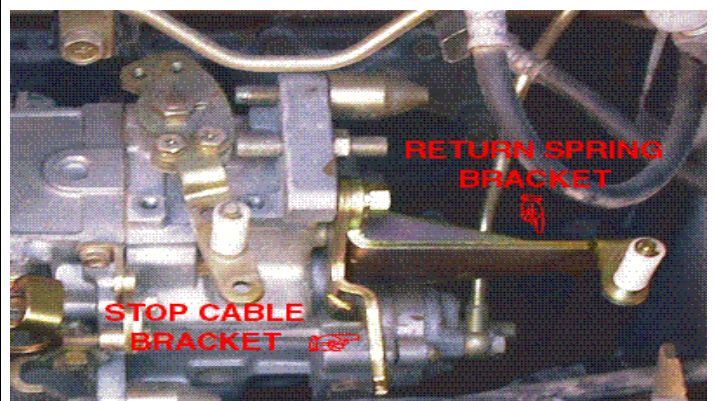

FIGURE 6
**6.** Install the new return spring bracket and the two return springs previously removed in Step 4. Install the additional stop cable bracket using the three longer bolts provided. Refer to Figure 6 on the right.